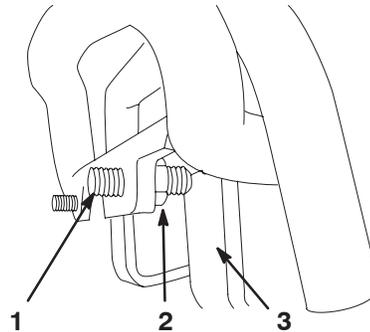

Figure 26
3. If the traction unit veers to the **left**, loosen the **right** jam nut and adjust the tracking set screw on the front of the traction control (Fig. 26).
4. If the traction unit veers to the **right**, loosen the **left** jam nut and adjust the tracking set screw on the front of the traction control (Fig. 26).